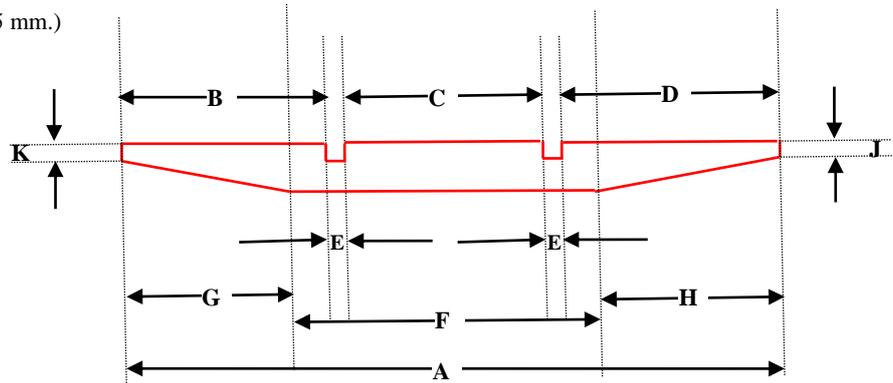

Figure 25: Foremast Trestletree Dimensions
- Holes for the deadeyes were drilled along each side as shown by the red arrows in Fig. 25.
- Holes were also drilled on the front face of the curved edge of the mast top to take the crowsfeet ropes (blue arrows indicate just a few of the rope positions in Fig. 25).
Plan Sheet 11 could be a little misleading as to the number of ropes passing through the top edge. Fig. 25 shows 12 rope holes for the foremast top which is a number frequently used. It comes down to how accurately you might wish to follow the historically-correct method of rigging – in that case, the number of holes will be different. Spacing between the holes was determined by first establishing the outer holes and then working inwards. Mark Tiedens from MSW suggested approx. **4 mm.** as a suitable separation between the holes.